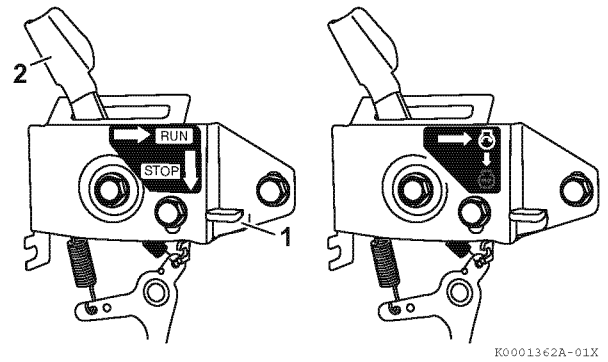

Figure 20
2. If your engine speed control is similar to **Figure 20** press the STOP button (1, **Figure 20**) and the engine speed control lever (2, **Figure 20**) will automatically return to the STOP position.